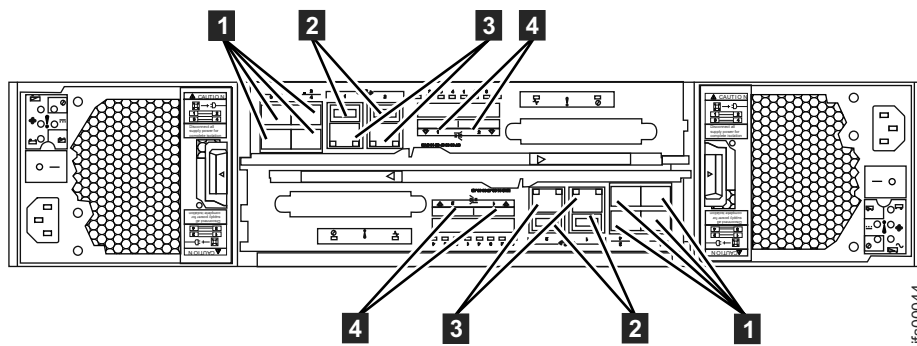
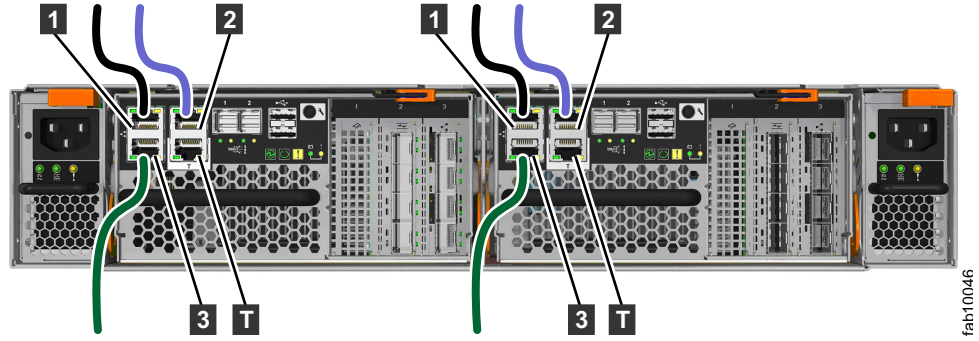
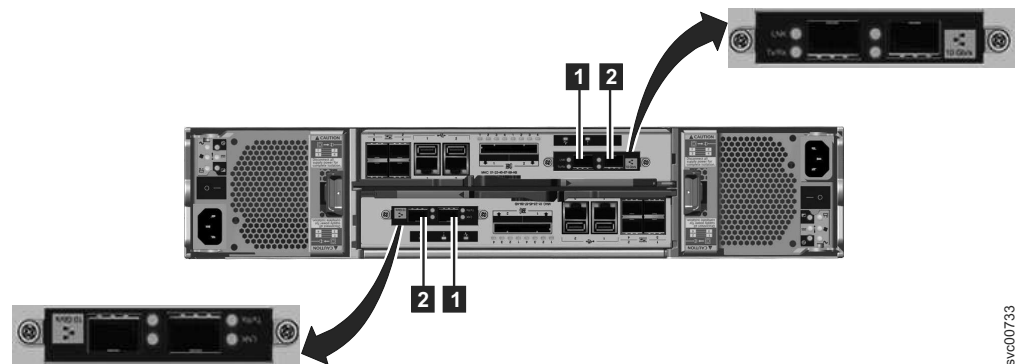
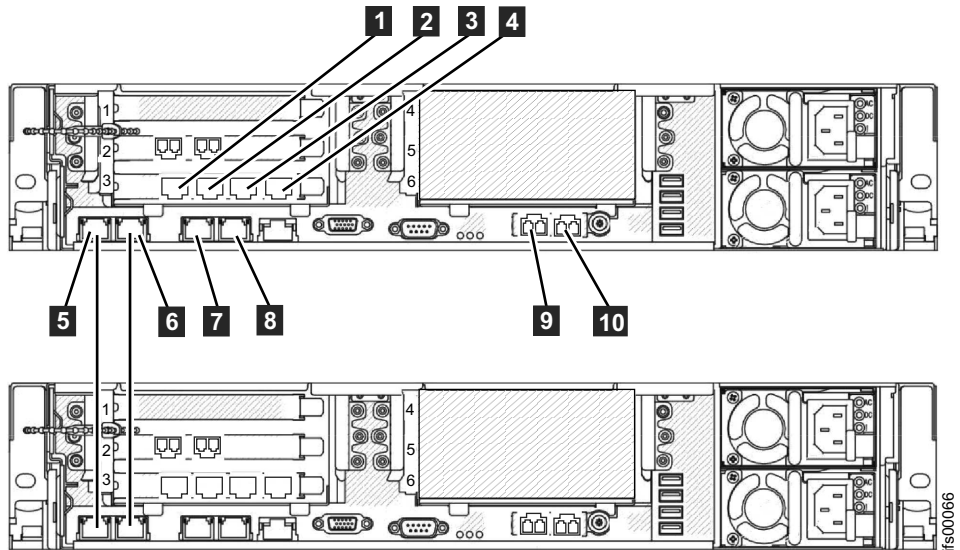

Figure 48. Control enclosure Ethernet network connections.
Figure 49. Storwize V7000 Gen2 control enclosure Ethernet network connections
Figure 50. 10 Gbps Ethernet ports on the rear of the Storwize V7000 enclosure
Figure 52. File module Ethernet connections.
This task assumes that your initial planning has determined where the Ethernet cables are to be located. The Storwize V7000 Unified control enclosure requires at least one and a maximum of two 1 Gbps Ethernet connections to each node canister. Refer to Figure 48, Figure 49 on page 59, and Figure 50 on page 59; also Table 16 on page 60 and Table 17 on page 61. For the file modules, the first two 1 Gbps Ethernet ports that are labeled **1** and **2** in Figure 52 on page 62 are used for internal communications between the file modules.
Ethernet port **1** (upper left; black cable in Figure 49)
Ethernet port **2** (upper right; blue cable in Figure 49)
Ethernet port **3** (lower left; green cable in Figure 49)
If you encounter that situation, change the service IP addresses on the new nodes before connecting the Ethernet cables. For details, see Figure 52 on page 62 or see the *Storwize V7000 Unified Problem Determination Guide* PDF on the DVD for further information about setting service IP addresses using a USB flash drive.
- Connect an Ethernet cable from Ethernet port 1 on the first file module to the first Ethernet port 1 the second file module. Refer to Figure 52 on page 62 for port locations.
You have two 10 Gbps Fibre Ethernet ports available for host connections from each file module. Connect your network cables to the Ethernet ports in these slots as applicable. Refer to Figure 52 on page 62.